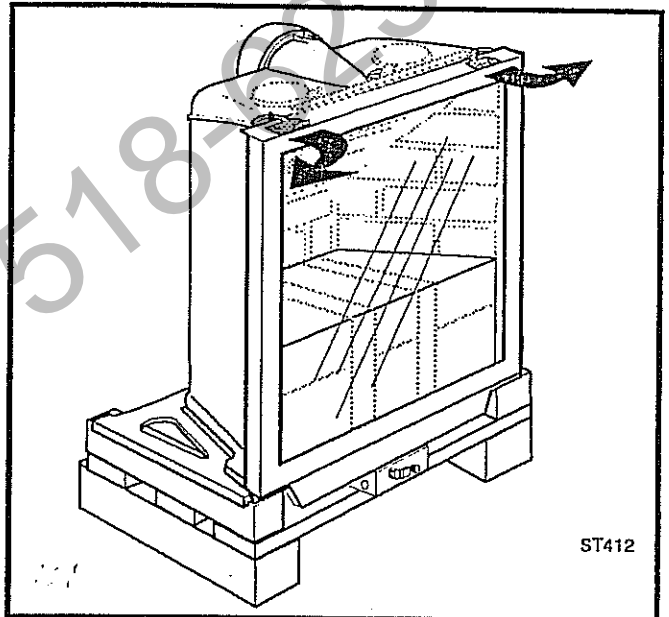

Fig. 68 Release the latches to release the glass frame.
3. Pivot the two frame latches to disengage the retainer bolts at the top corners of the glass frame. (Fig. 68) Carefully remove the glass and frame assembly and place it out of the way on a flat, padded surface such as a counter protected by a towel.